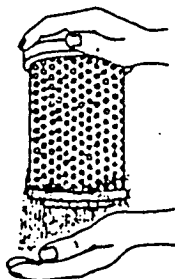

Figure 13
- Cleaning by tapping off the dust (Figure 13):